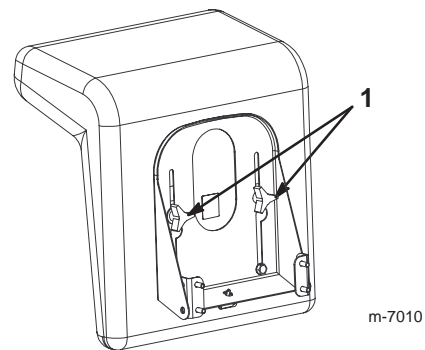

Figure 4
1. Raise the seat and loosen the adjustment knobs (Fig. 4).